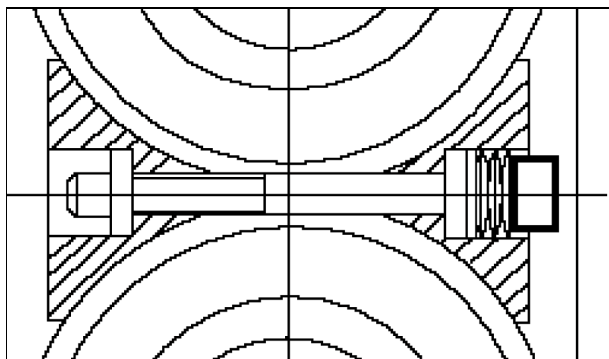
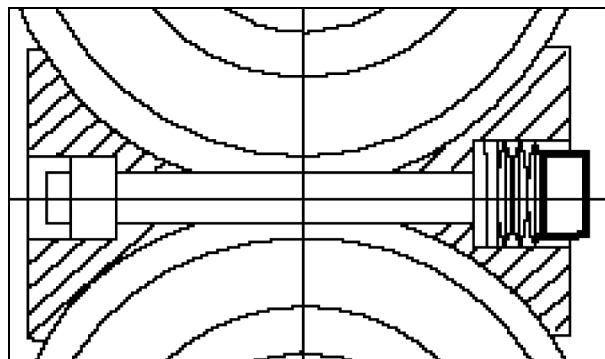

Fig. 31
Fig. 32
- Install the new friction linings according to (Fig. 31 or Fig. 32). There are two different vertical friction linings. Both are equally suitable for the unit.